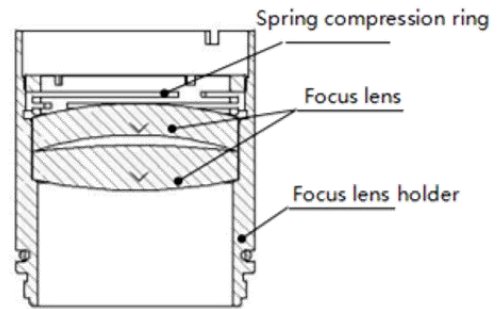

Figure 6.9 — Installation diagram of focus lens
- As the direction (arrow) shown in figure 6.9, put the focusing lens and the spring pressure washer in the lens holder carefully and tighten the pressure washer properly;